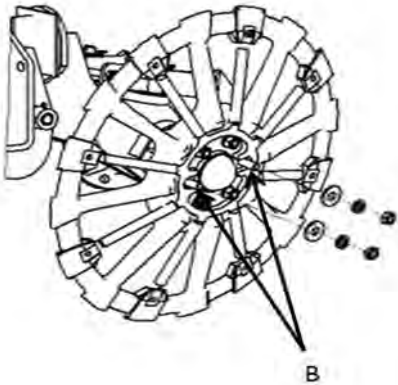

Figure 7-11: Adding or Removing Center-Mount Filler Wheels
1. Remove the lock nut, lock washer, and flat washer from bolts (B) as shown in Figure 7-11.